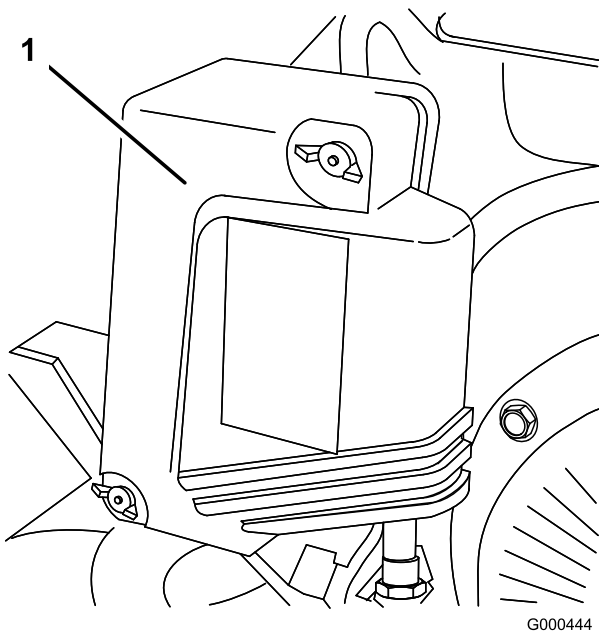

Figure 23
2. Remove wing nuts securing air cleaner cover to air cleaner and remove cover. Clean cover thoroughly (Figure 23).